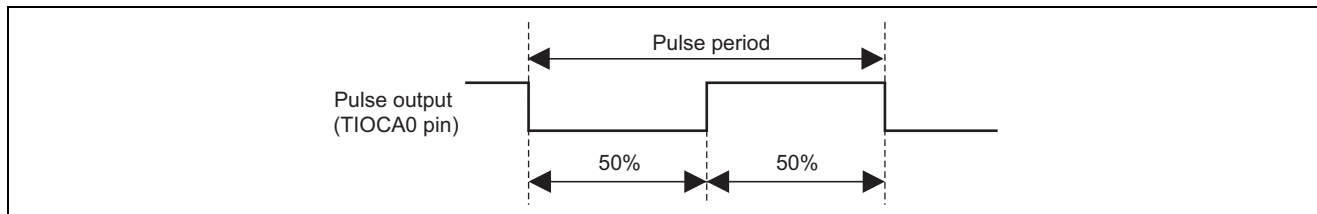

Figure 1 Example of Output Pulse
- An example of the output pulse is shown in figure 1.